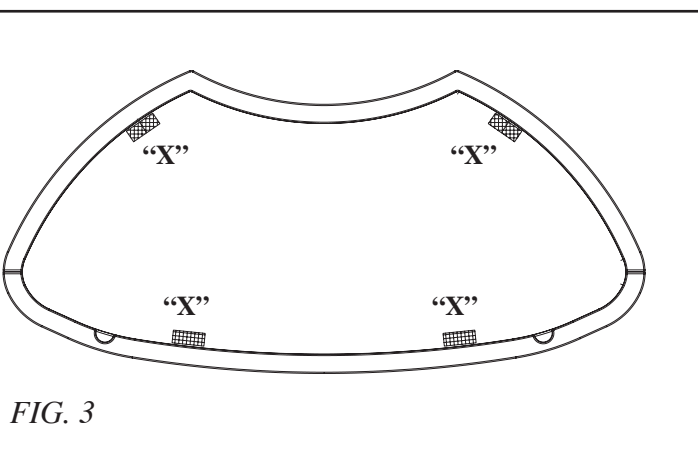

FIG. 3
- position the seals ('X') in the ceramics box, as shown in fig.3.